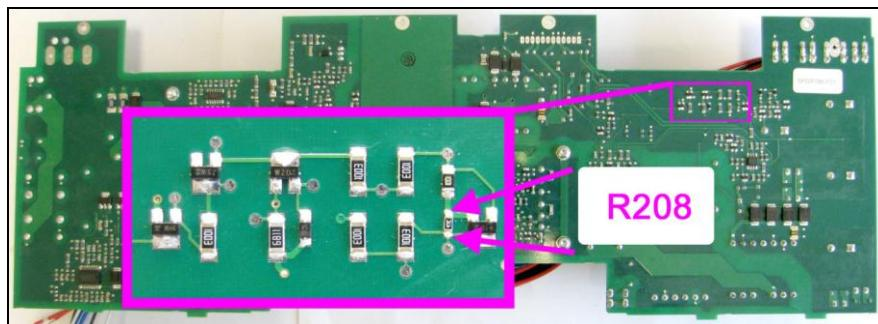
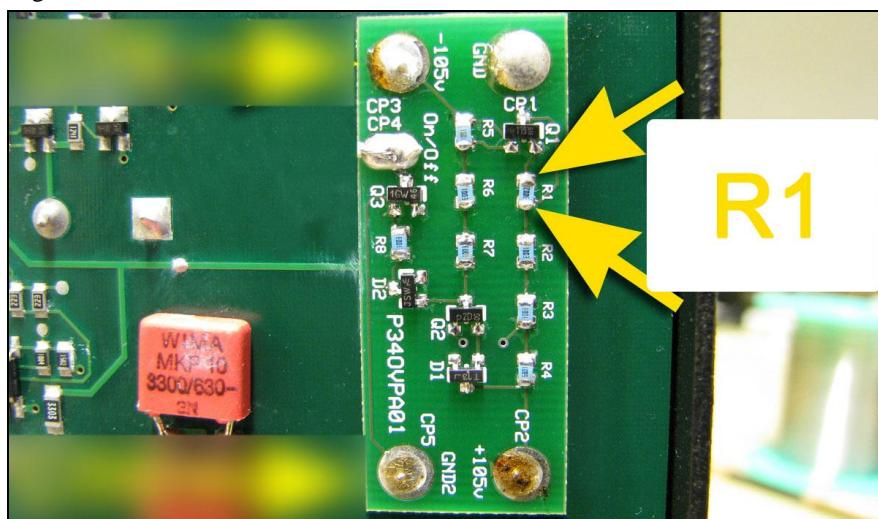

Fig. 28 – Found on SP20F08-Fxx P34401-F or newer.
Fig. 29 – Found on (SP20F06-Fxx) P34401-H or lower
25. Perform a test of the overcurrent protection by quickly short circuit (ATTENTION! Do not maintain for a long period of time) the R208 located on SP20F08x (fig. 28) or R1 located on P34OVPA01 if your article number is SP20F07x or older (fig. 29).